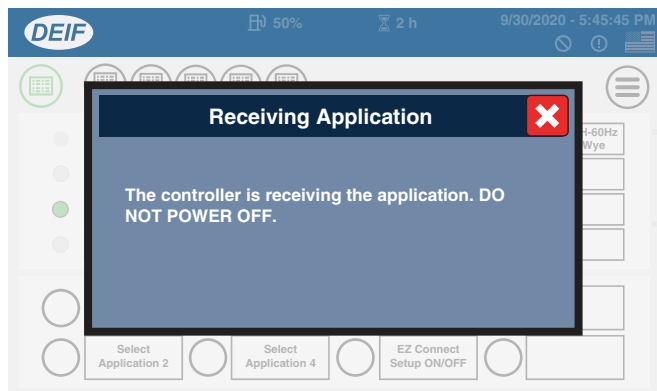

Figure 174. Receiving Application Screen
10. The **Receiving Application** screen will be displayed next (Figure 174). After this message has cleared, repeat steps 8–10 on the remaining units.